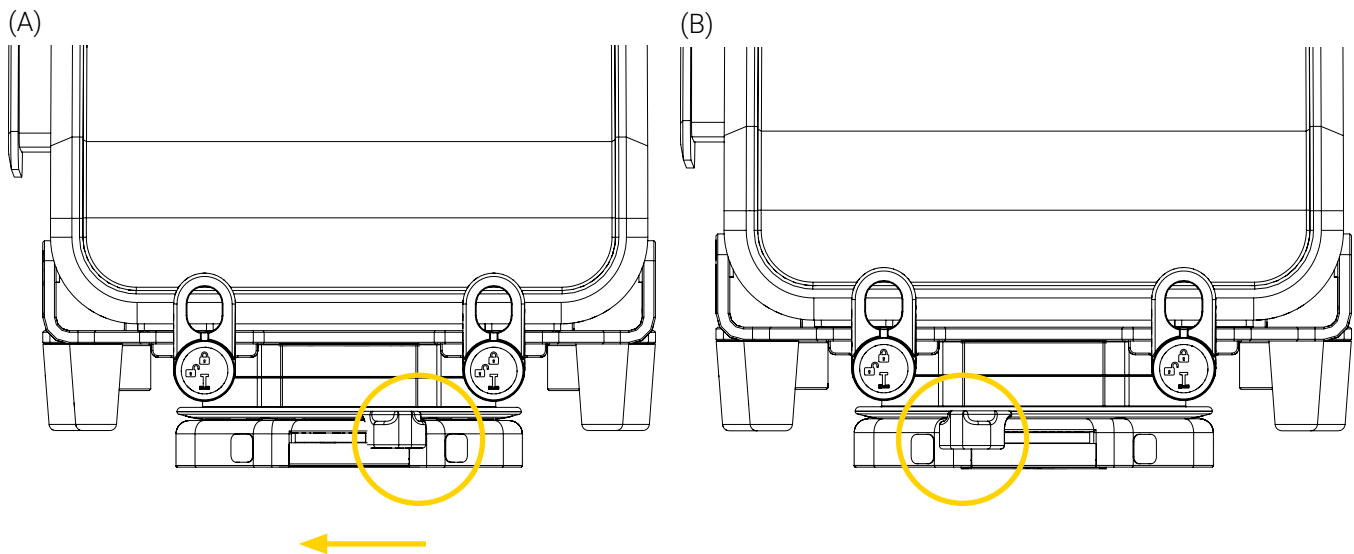

Figure 11: Unlocking the Universal Mounting Base
1. Unlock the Universal Mounting Base using slide locking lever (Figure 11). Refer to the « Safety Mechanism » section on page 19 if needed.